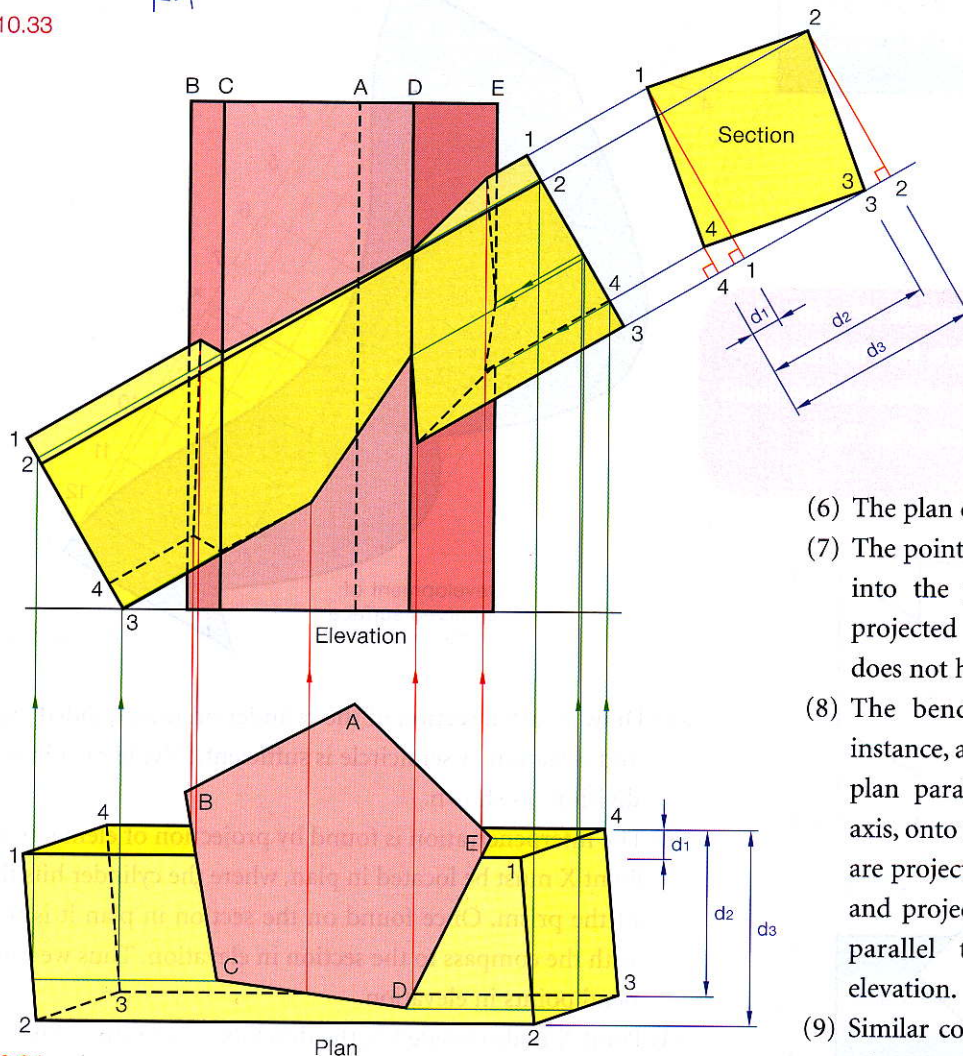

Fig. 10.34
- (1) Draw the pentagon in plan and project the elevation.
- (2) Draw the line 3-3 in the specified place. Construct the sectional square at 20° as shown. Index the corners.
- (3) Project the corners of the square back to elevation to give the prism edges.
- (4) In plan we are given the location of the back edge of the inclined prism. This edge must be edge 4 as this is shown as a dotted line in elevation.
- (5) By projecting the square's corners in the section, perpendicular to the prism's inclination, we find d_1 , d_2 and d_3 . These distances are marked off from edge 4 in plan giving the remaining three edges in plan, Fig. 10.34.